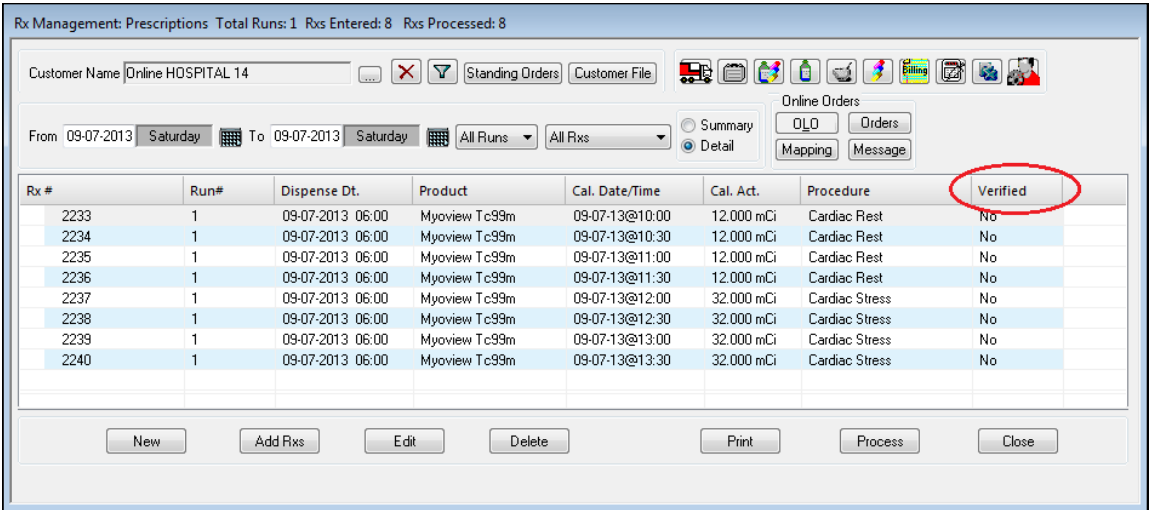

Fig 1
- a. Shipment verification is a requirement prior to tracking deliveries in BioPointe. You can add the Verified column by doing a right click on the header and adding Verified. See Fig 1